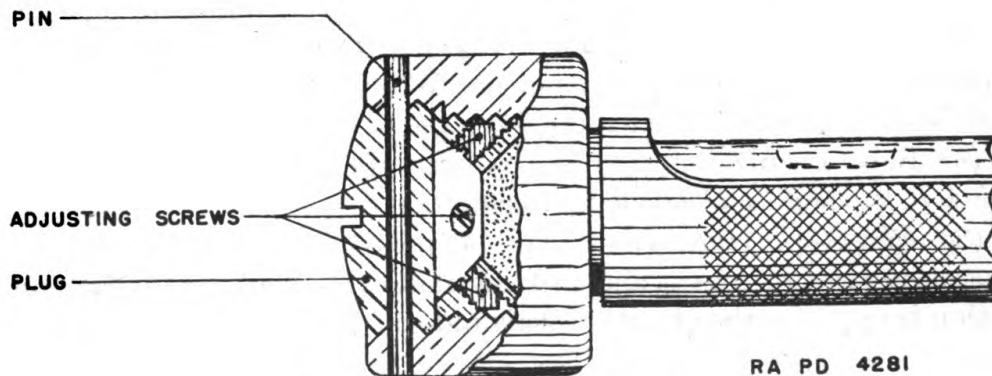
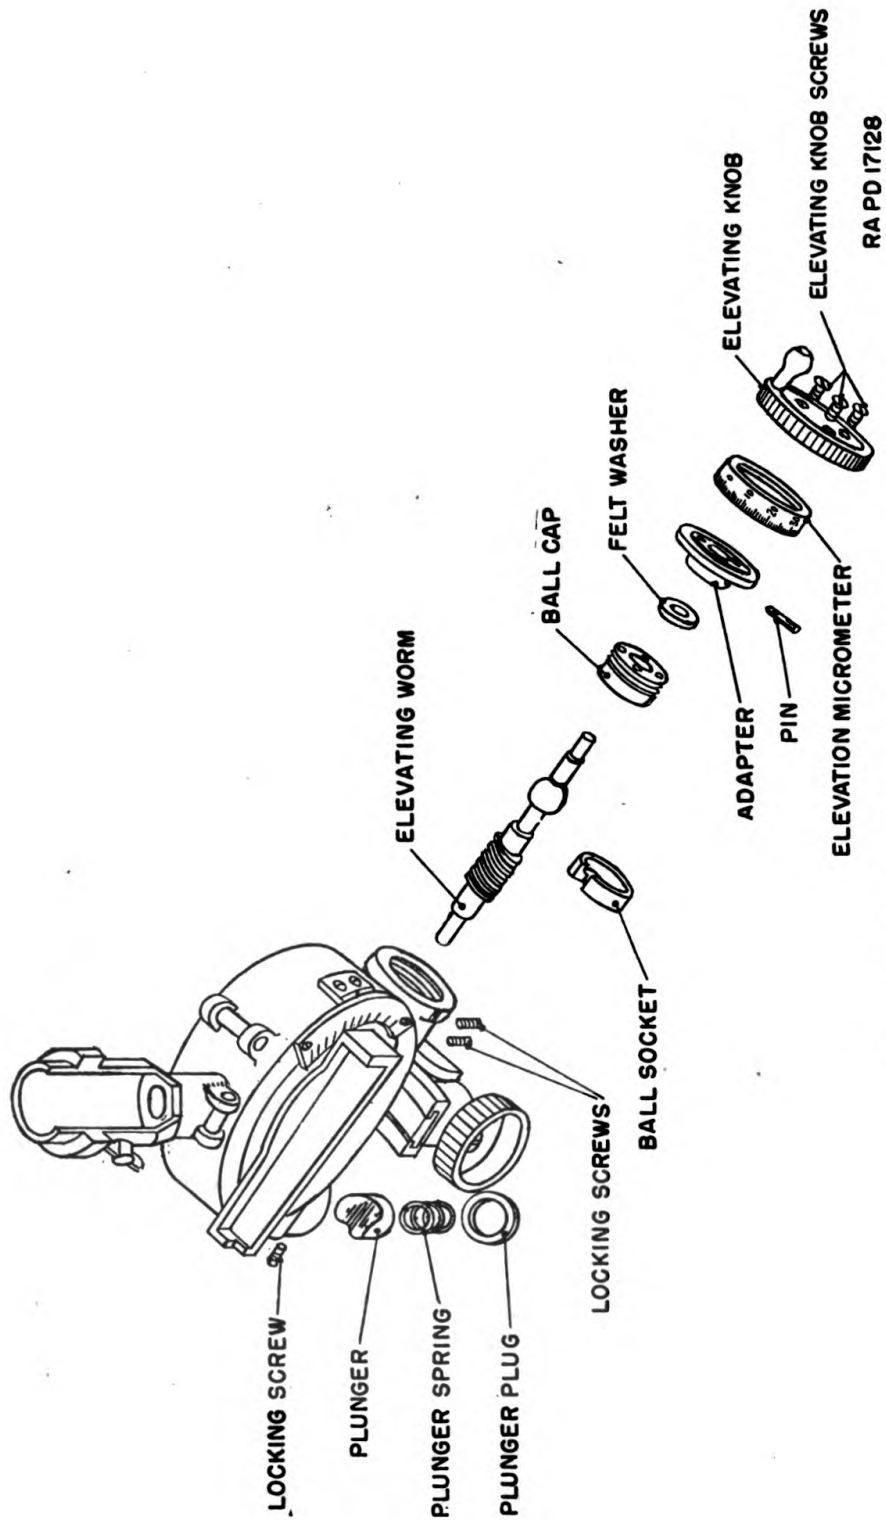

FIGURE 11.—Level vial adjustment.
FIGURE 18.—Exploded view of elevating mechanism.
(1) Uncover the level tube. Center the bubble and press down alternately on each end of the level tube. Note whether the bubble remains stationary during this procedure. If the bubble does not remain stationary, an adjustment of the level tube adjusting screws is necessary.
(2) Place a test level on the top surface of the telescope socket, parallel to the axis of the level tube being tested. If the bubble in the level tube on the mount is not centered when the test level bubble is centered, adjustment is necessary. (One level vial graduation error is allowable.)
b. Adjustment (fig. 11).—(1) Remove the pins from both ends of the level tube. Unscrew the right and left tube plugs.
(1) With a punch and a light hammer drive out the pins (fig. 11) which secure the level vial plugs. Unscrew both level vial plugs.
(2) Loosen the four adjusting screws. Extract the level tube assembly from its housing by sliding it out toward the right. Care should be exercised that the tube cover does not slide from its proper position and hinder the disassembling procedure.
(3) Clean out the calcined gypsum (plaster of paris) setting from each end of the level tube by means of a small screw driver or knife blade. Extract the level vial and thoroughly clean out the remaining plaster of paris.
d. To reassemble longitudinal level assembly.—(1) Place the level vial in the level tube and locate it so that the graduations are centered in the tube opening. Pack the tube with calcined gypsum (plaster of paris) which has been mixed to medium consistency.
(2) Hold the tube cover in the proper position and slide the level tube into place. Replace the pin and plug on the right side of the tube. Adjust the level tube by means of the four adjusting screws as explained in paragraph 15. Replace the left pin and plug.
e. To disassemble elevating mechanism.—(1) *Elevating worm.*—In connection with disassembling this mechanism, reference should be made to figure 18.
(2) *Elevating worm.*—Clean all parts thoroughly and place a few drops of oil on the wearing parts of the elevating worm and on the felt washer. Follow the procedure given for disassembling, except in reverse order. (See fig. 18.) Adjust the ball cap so the worm may be rotated without undue looseness or excessive friction.